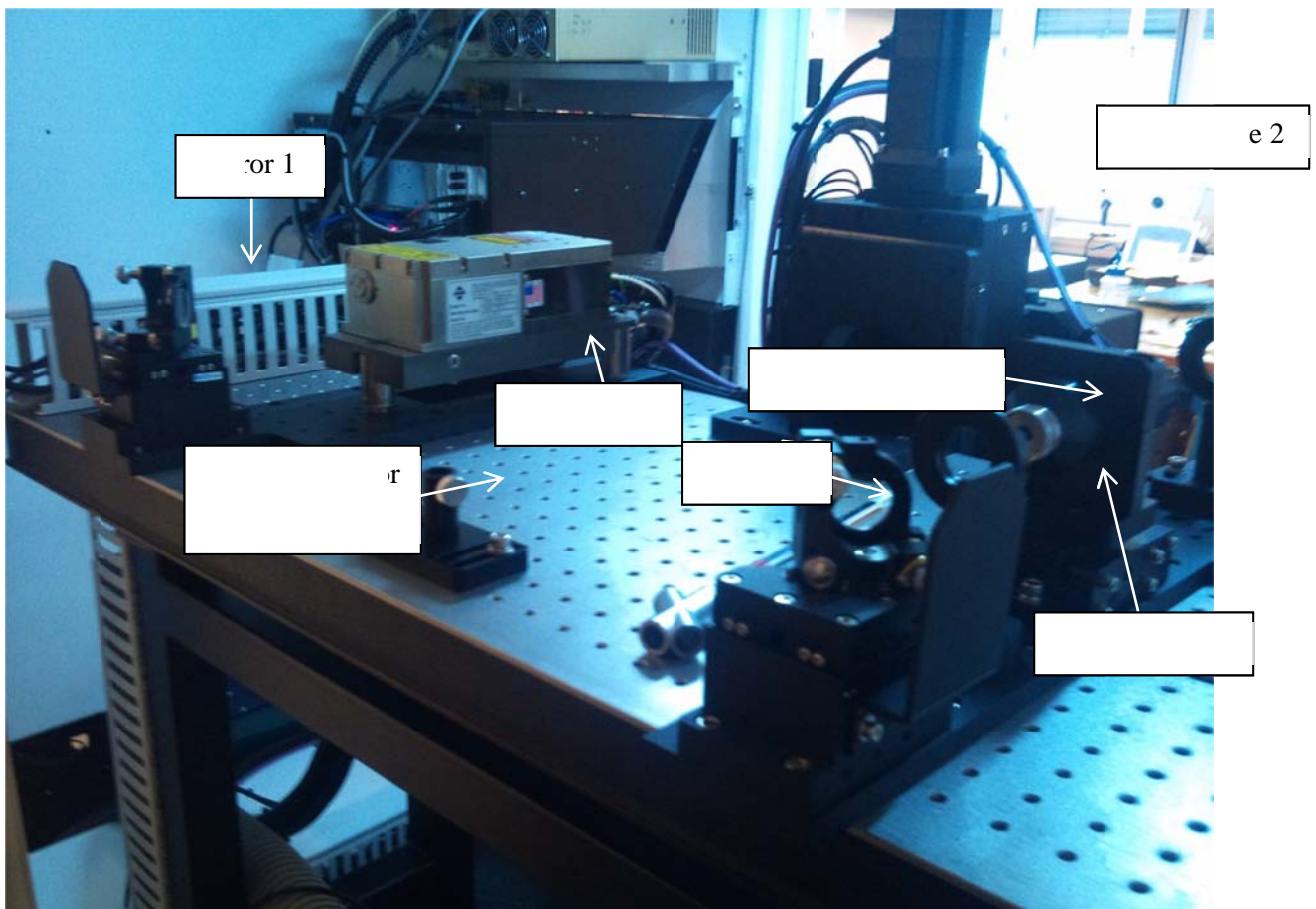

Figure 1: optical system 1st half
- 2- Remove the black caps on the optical systems presented in Figure 1.
- 4- Adjust mirrors (1) and (2) so that the beam would pass from the middle of the both diaphragms. The mirrors have 1 translational DOF, and two tilt motions. Remember to first open the fixing screw on the mirrors. And after adjusting to close it.
- 9- Now that you have done the best you can you should do the final adjustment. Put the power sensor in its holder shown in Figure 1. Using computer program, make a step output (current around 28 and power percentage of 95) and measure the power (Write it down if you like). Now remove the power sensor and put it under the scanner. Do the power measurement again. You should reach power efficiency available in the accompanying excel file(what it was at the time of installation)